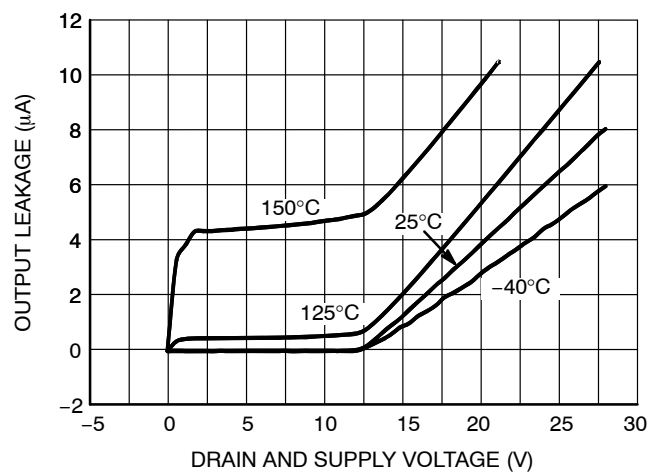

Figure 15. Standby Output Leakage vs. VS
- Refer to Figure 15 for output leakage current behavior.